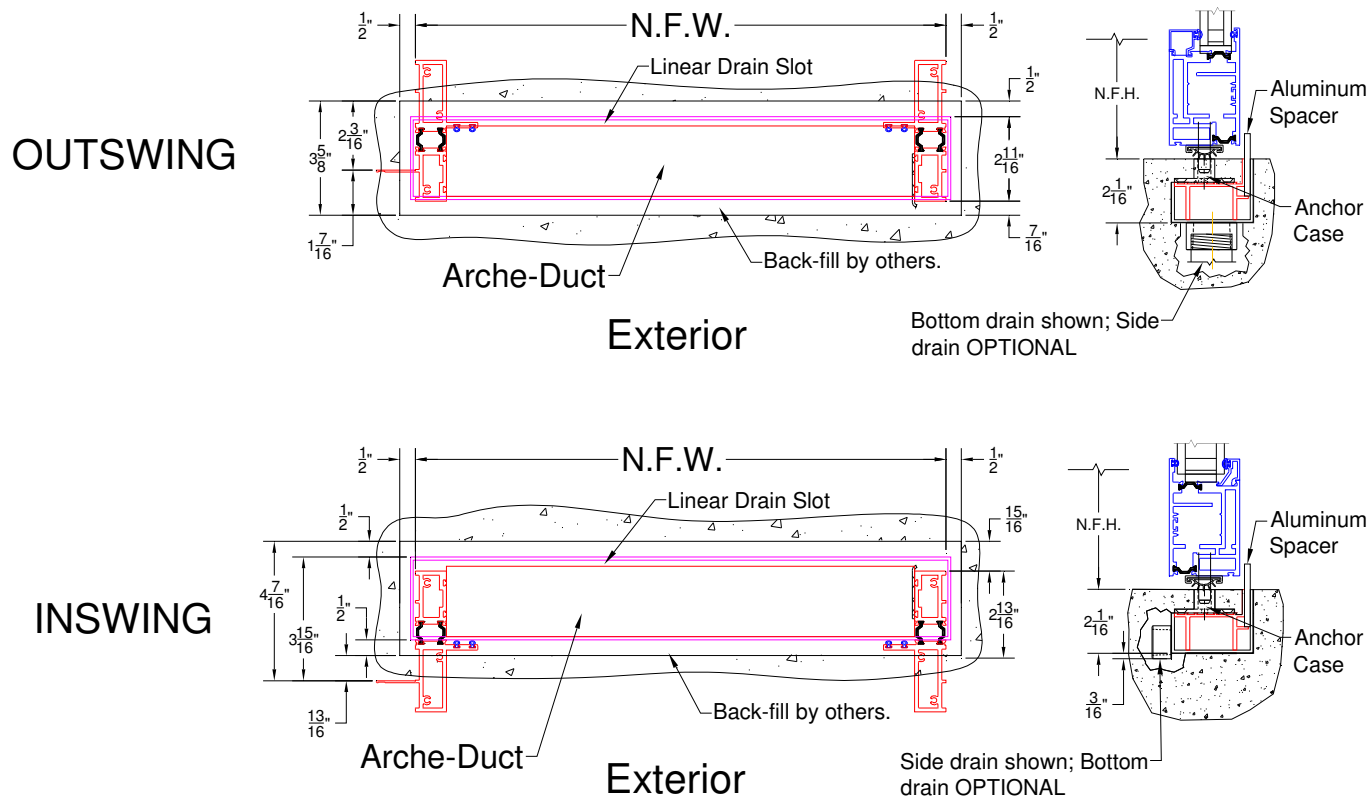

Figure D1:
1. The Arche-Duct sill option requires a flooring block out (Figure D1). If Arche-Duct tabs are present add 1-1/2" to exterior / interior block out. These tabs are for fastening the drainage system to the substrate.
2. After panel installation, if shoot bolts are present, align strike with shoot bolts (Figure D1/D2), mark location, drill holes using #25 drill bit, fasten in place with 1 inch #10 screws provided.